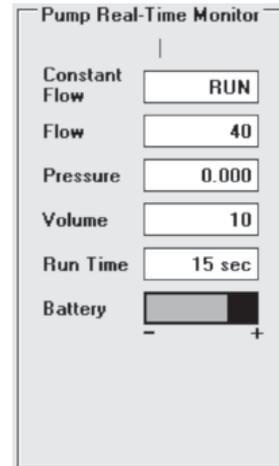

Figure 5. Real Time Monitor Display
- A. Real Time Monitor Display (see Figure 5)
The Real Time Monitor display (Figure 5) shows the operating status of the connected pump.
C. Flow.....	selects Constant Flow mode; switching from Constant Pressure to Constant Flow mode resets the Real Time Monitor display (Figure 5)
C. Press	selects Constant Pressure mode; switching from Constant Flow to Constant Pressure mode resets the Real Time Monitor display (Figure 5)